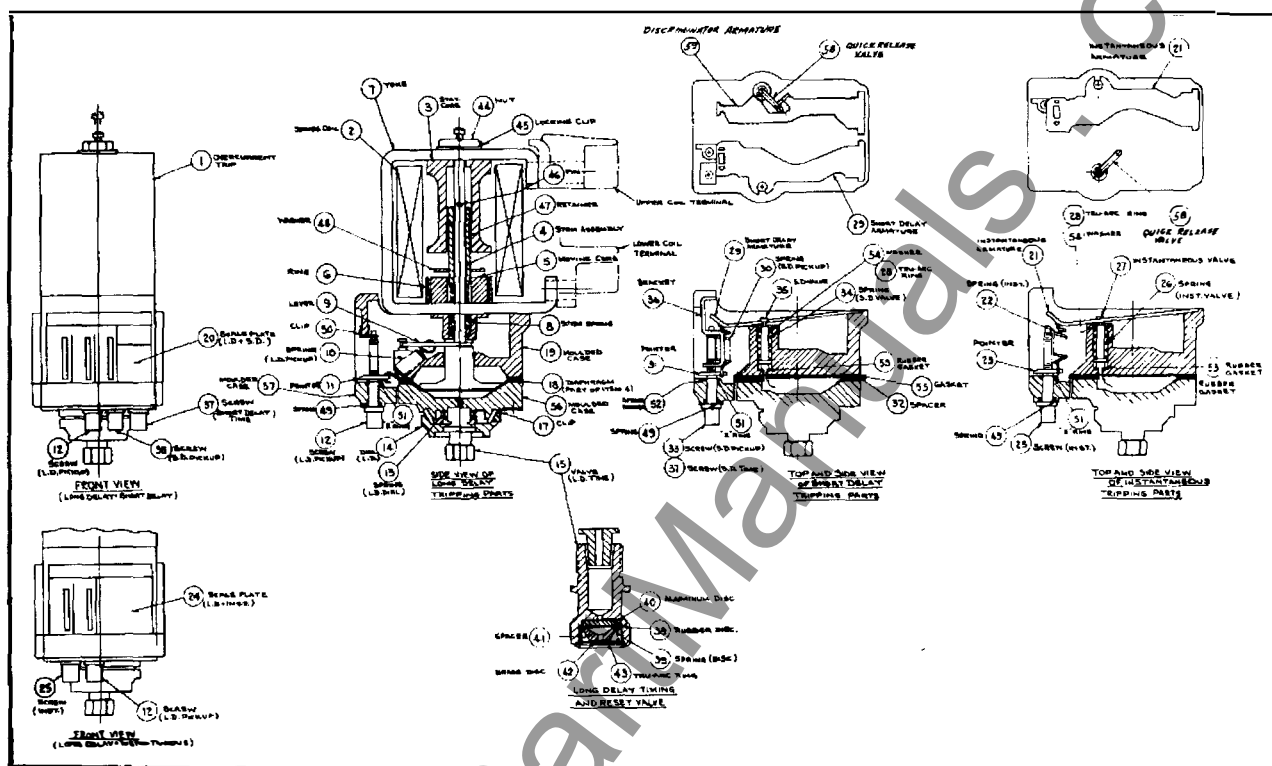
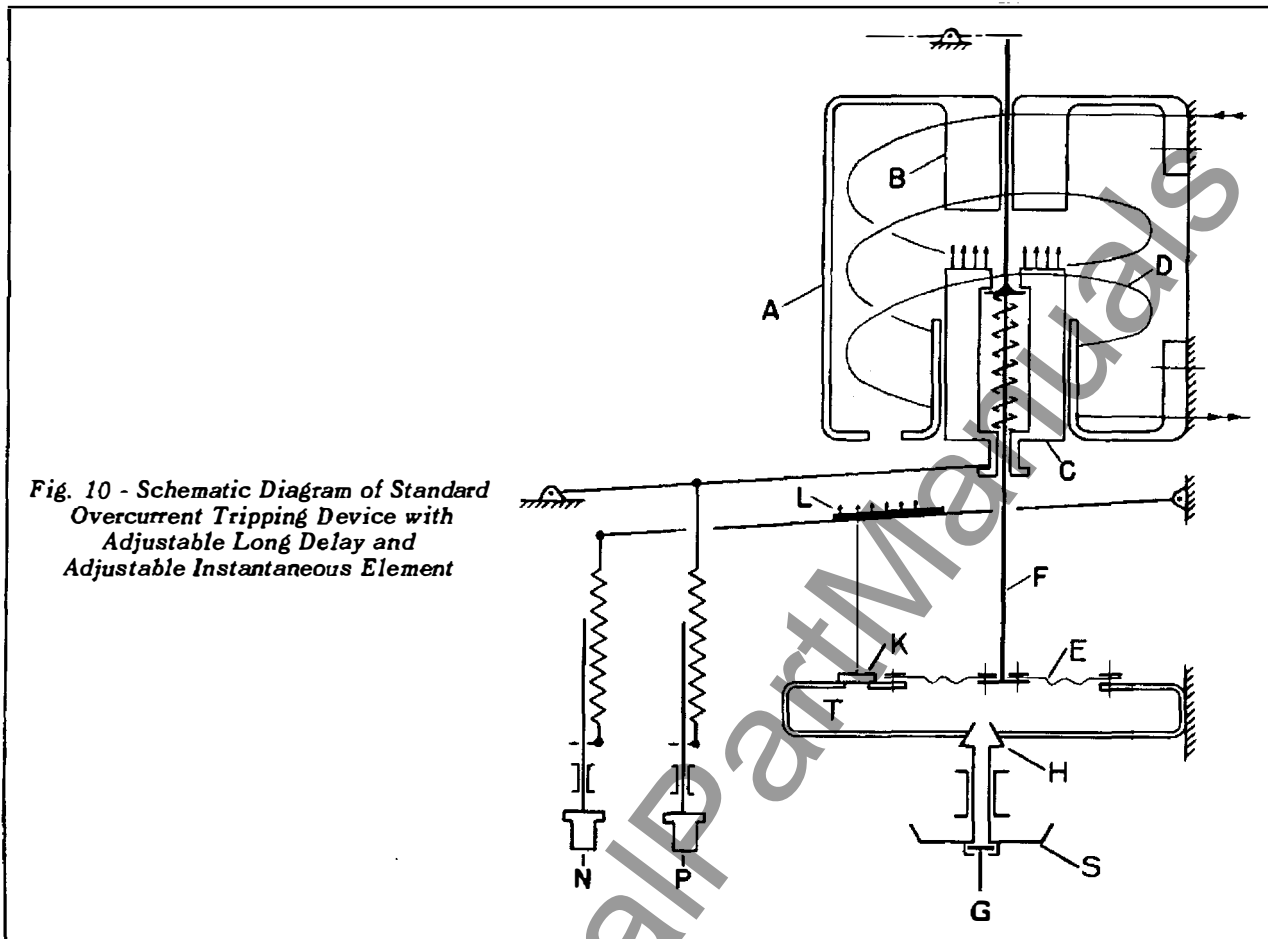
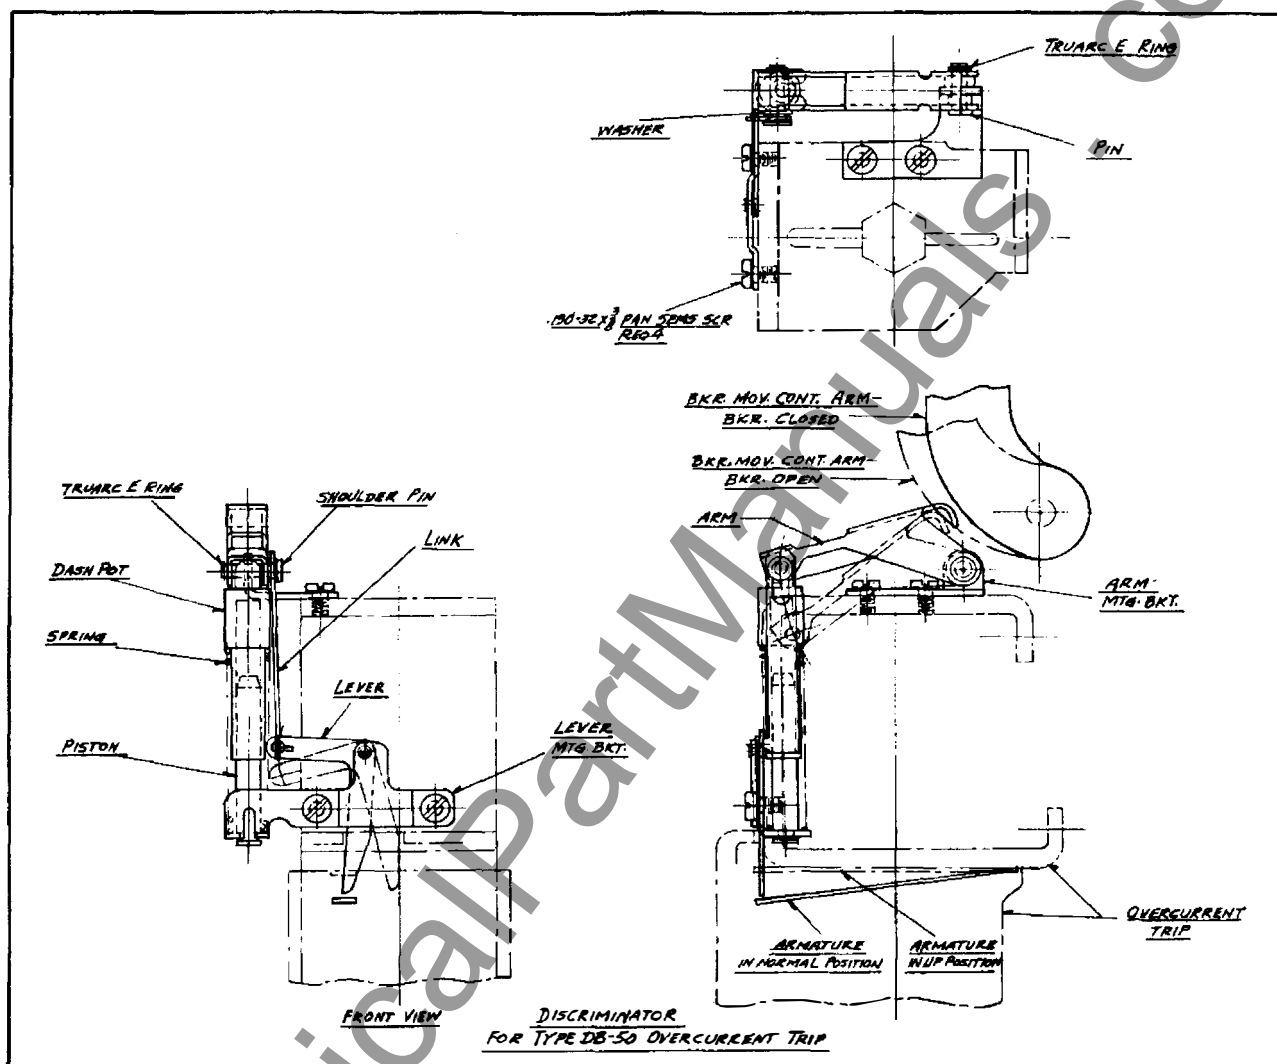

Fig. 6 - Cross-Sectional View of Series Overcurrent Tripping Device with Long Delay and Instantaneous Elements
Fig. 10 - Schematic Diagram of Standard Overcurrent Tripping Device with Adjustable Long Delay and Adjustable Instantaneous Element
Fig. 13 - Discriminator for Tripping Device
To manually check the overtravel refer to Fig. 6. The air delay device can be made inoperative by opening the instantaneous valve (or the short delay valve in the case of selective type tripping devices). The valve is opened by lifting the instantaneous (or short delay) armature. A slot is provided in the side of the molded case and a small rod approximately 1/16 diameter can be entered through the side of the case and used as a lever to lift the armature. After the valve is blocked open, the trip plunger
As seen from the sectional view Figure 6, the magnet frame and coil assembly consists of a yoke, a coil, a stationary and moving core together with their necessary insulation.
An overload or short circuit through the series coil D, Fig. 10, will cause the moving core C to be attracted and move toward the stationary core B. At low currents, the moving core C will carry the tripping stem F along with it, and the motion will be retarded by the diaphragm E. The rate of travel of the diaphragm is determined by the rate at which air is permitted to enter
chamber T by the various valves H and K. When the diaphragm has reached approximately 60 percent of its travel, a quick release valve (shown in Fig. 6) is mechanically opened. This quick release feature permits the full force of the magnet to be used for tripping the breaker after the timing cycle is completed. At higher currents when the attraction between the moving core C and the stationary core B is greater than the load on the spring inside of the moving core, the moving core will compress the spring and travel independently of the tripping stem F. This spring insures a constant force pattern acting on the diaphragm E. The reset valve is shown as G.
Valve H is the long delay valve and it is permanently open to a calibrated setting. This setting which controls the tripping time can be changed by means of dial S, Figure 10. The magnitude of current at which the
long delay will begin to operate is determined by the long delay pick-up adjusting knob P, Figure 10. The magnitude of current at which the instantaneous trip will operate is determined by the instantaneous pick-up adjusting knob N, Figure 10.
B. A quick release valve (shown in Fig. 6-short delay tripping parts) which functions as described for dual overcurrent tripping device.
C. Discriminator armature, Fig. 6.
The discriminator operating linkage, Fig. 13 and the discriminator armature, Fig. 6 are used on the selective overcurrent tripping device to make the device behave as an instantaneous type tripping device while the breaker is being closed and for approximately 0.5 seconds after closing. During this period, the discriminator armature is free to lift the quick release valve and permit instantaneous tripping, if the current is greater than the discriminator armature pick-up setting. If the current does not rise above this value, the breaker remains closed and the discriminator linkage assumes a position which makes the discriminator armature inoperable and restores the selective tripping feature to the tripping device.
The long delay pick-up can be adjusted by means of P, Figure 10, also shown in Figure 6. The unit has been calibrated and the calibration plate marked at five settings, namely 80, 100, 120, 140 and 160 percent of the coil rating. The pick-up was placed on the 100 percent setting before shipment. A different setting can be obtained by carefully turning the adjusting knob with the help of a small screwdriver inserted in the slots for that purpose.
The long delay can be adjusted by means of the long time adjusting dial S, Figure 10, also shown in Figure 6. The dial adjustment is limited to slightly less than one turn. Two points have been calibrated at the factory and are indicated by white marks on the outer edge of the dial. The dial has markings from 1 to 10. When the higher-numbered white mark on the dial coincides with the white indicator on the front of the lower case, the tripping time will be the higher long delay value shown in seconds on the scale plate. Conversely, when the lower-numbered white mark on the dial coincides with the white indicator on the front of the lower case, the tripping time will be the lower long delay value shown in seconds on the scale plate. These tripping times are calibrated with currents which are 600 percent of the coil rating applied. The dial settings are scribed on the scale plate under long delay dial setting heading.
The instantaneous pick-up can be adjusted by means of knob N, Figure 10, also shown in Figure 6. The instantaneous pick-up has been calibrated at 8 and 12 times or 5 and 10 times the coil rating at the factory. The adjusting knob can be turned carefully with the help of a small screwdriver inserted in the slots for that purpose, if a different setting is desired.